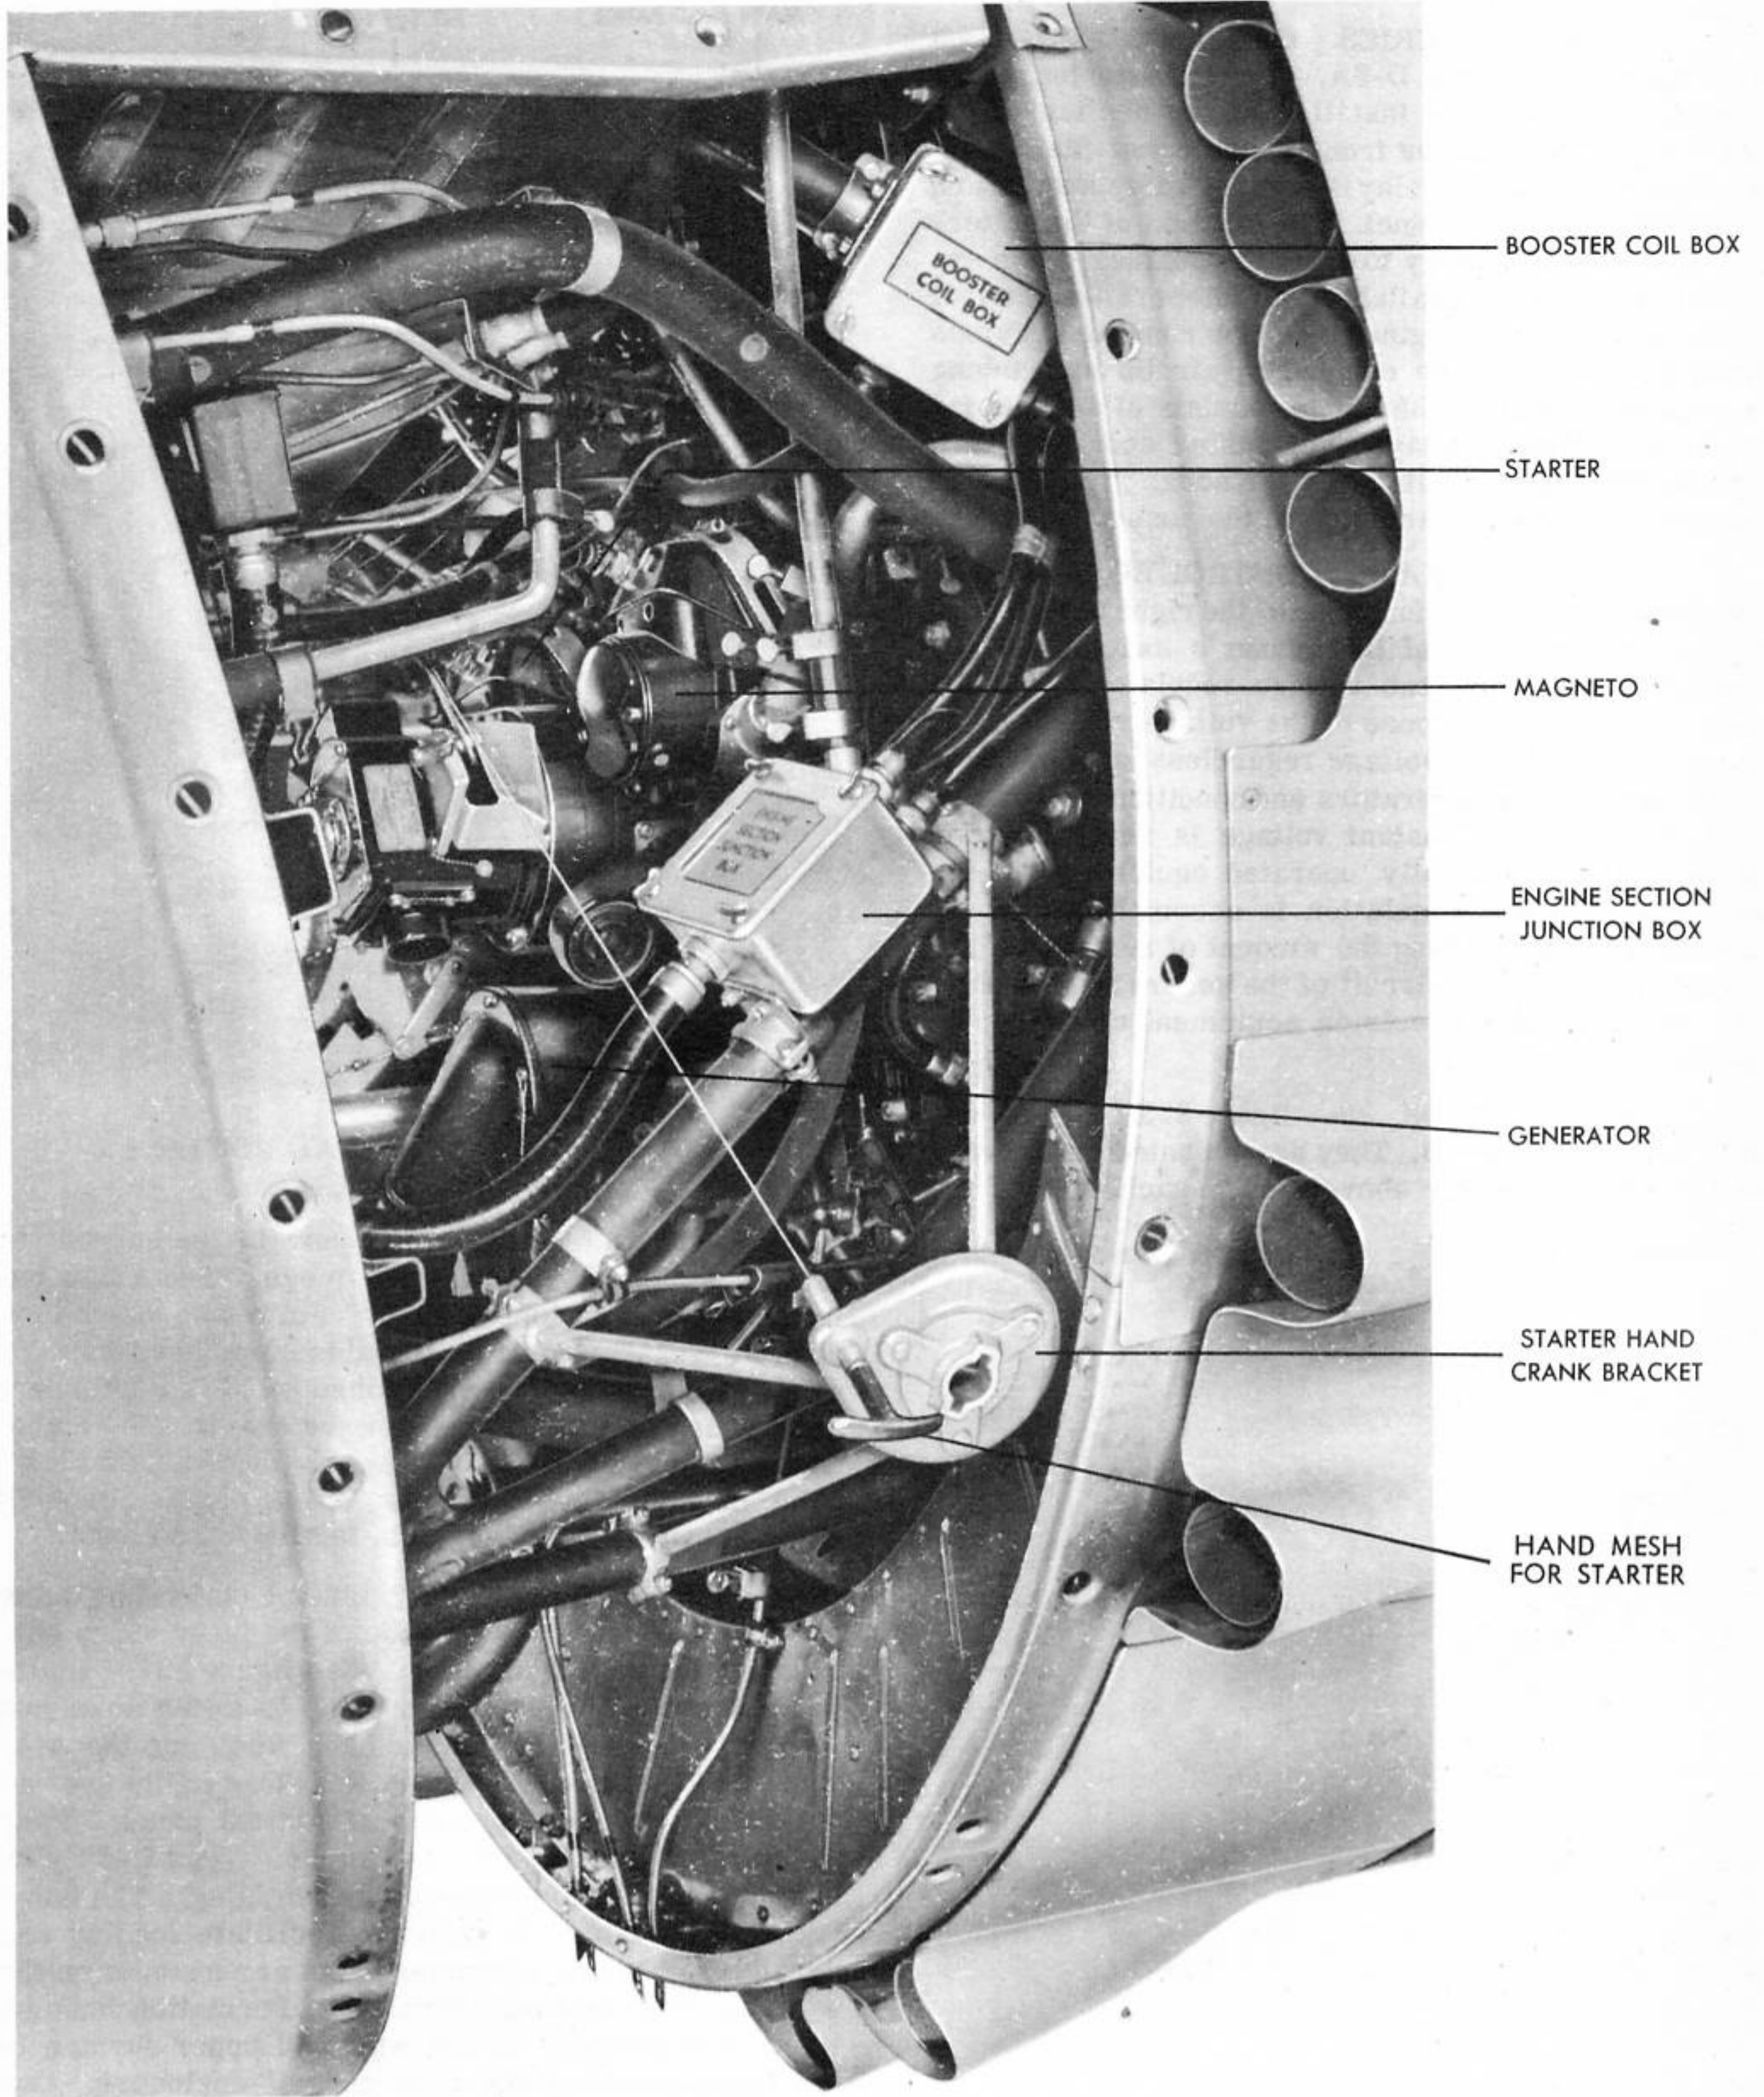

Figure 233 - ELECTRICAL EQUIPMENT ON REAR OF INSTALLED ENGINE
(3) MAGNETOS. (See figure 233.) - Each engine has two magnetos. They are mounted on the rear of the engine slightly above and to each side of the